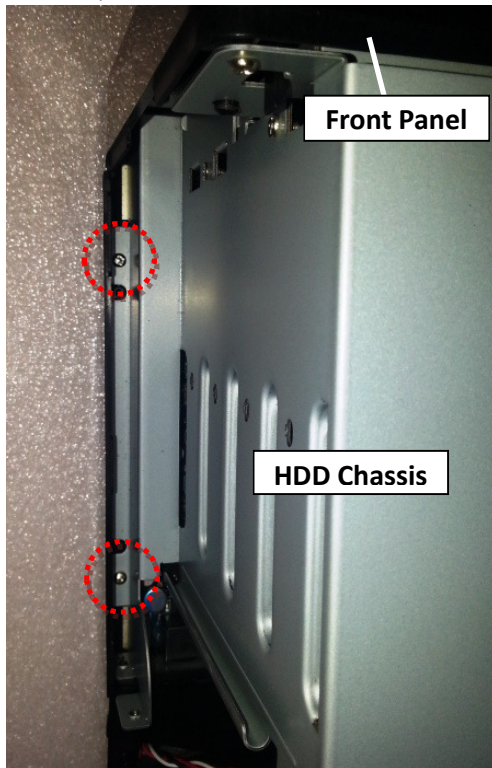
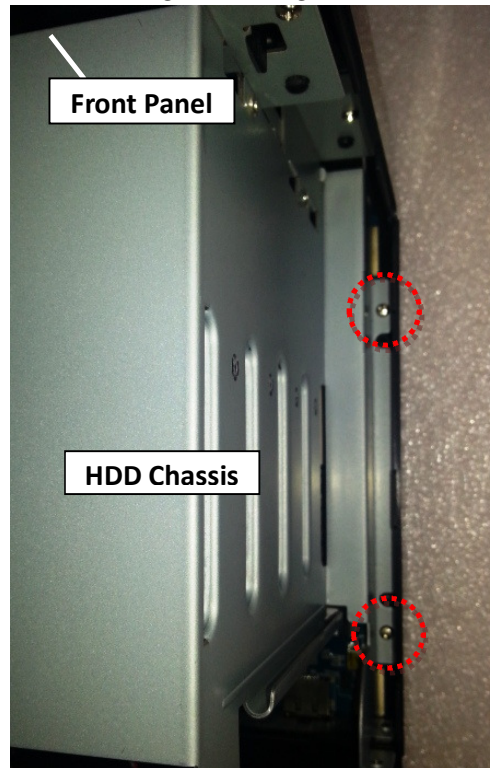

Fig. 80 – Right Side
Fig. 81 – Left Side
3.2.9 Fix the two (2) screws on each side of the enclosure interior (Marked by the red circles) to secure the bottom cover. (Fig. 80 for the right and Fig. 81 the left side)